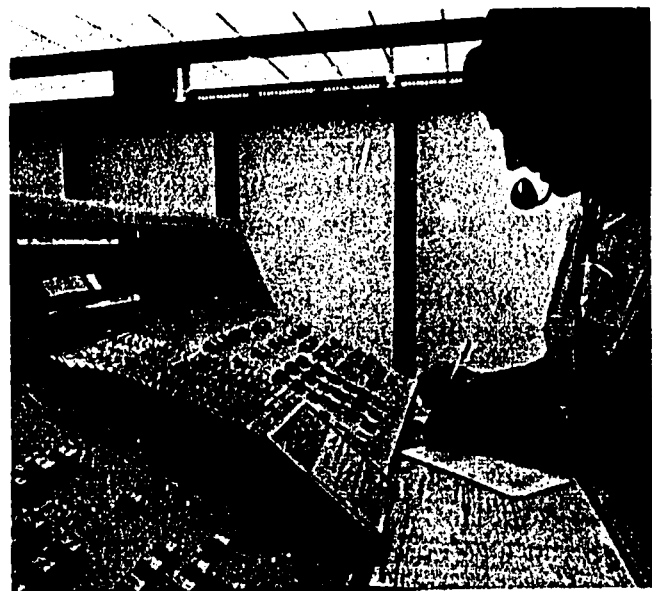

Fig. 71-6. Business records must be kept of all expenses and income. They are needed to make up the financial statements of the corporation.
There are sales records, income records, and tax records. These are used to make up the two basic financial statements of the company. They are (1) the *profit and loss sheet* (income statement) and (2) the *balance sheet*. They show the financial health of the company, how it has improved or suffered in the last several months, or what its condition was at some single point in time, Fig. 71-6.